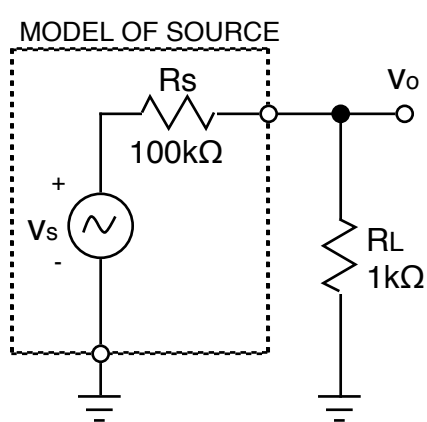
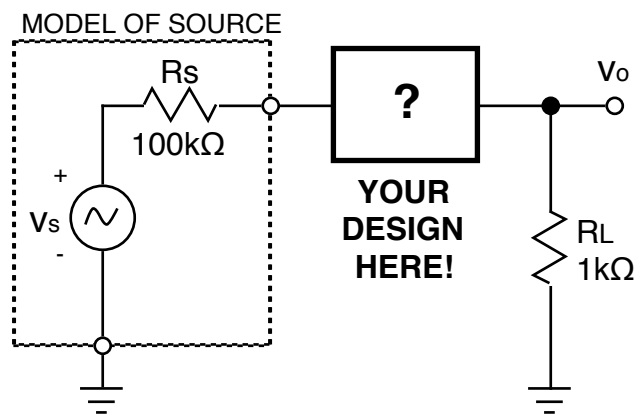

Figure 2.1
Figure 2.2
Try the direct approach of Figure 2.1:
- P1.2 Design a circuit to meet the requirement of $v_o = v_s$, as shown in Figure 2.2. R_L and R_S remain as in Figure 2.1. You may assume $\pm 15V$ supplies are available.
1. Construct the circuit of Figure 2.1 with a 5V, 1kHz sinusoidal source.
- 1.2 Verify your design for a circuit to meet the requirement of $v_o = v_s$, as shown in Figure 2.2.